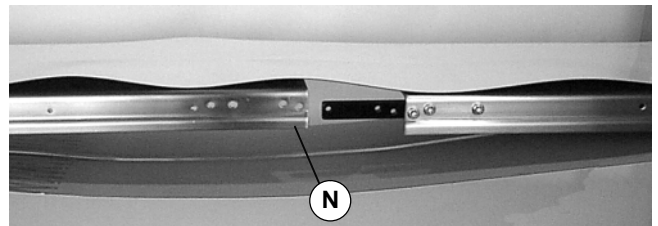

Figure 7
4. Place conveyor frame (N of Figure 7) into belt loop.